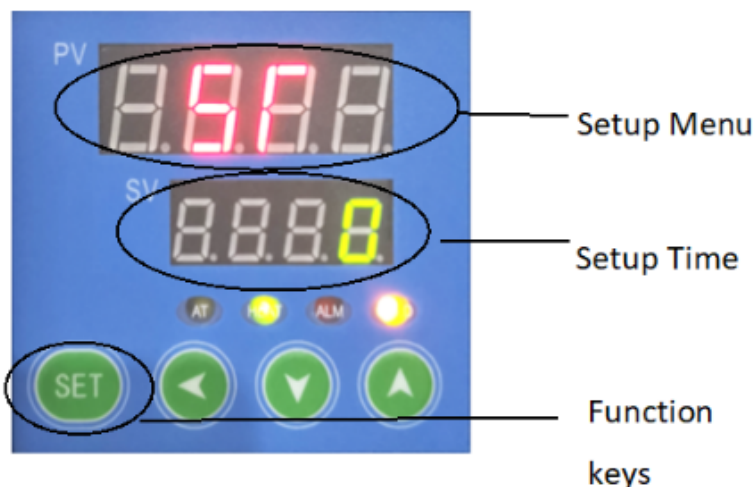

Figure 6
4.1 See figure 6, After pressing the SET key for 4 seconds, the PV screen displays " **SP** ", if SV screen display "0", it indicates that timing function not set (factory status).